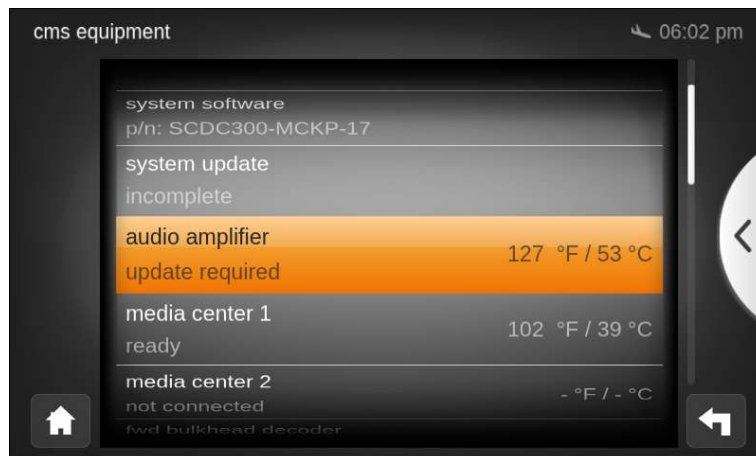

Figure 14: “CMS equipment” menu
- d) Select “cms equipment”. The current system software P/N and the status of all LRUs will be shown (Figure 14).